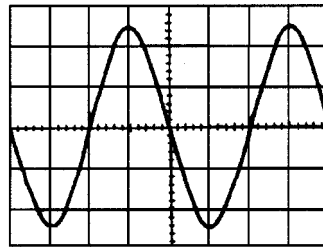

Figure A3.1
- 1 A conductor, 25 cm long is situated at right angles to a magnetic field. Determine the strength of the magnetic field if a current of 12 A in the conductor produces a force on it of 4.5 N. (3)
- 2 An electron in a television tube has a charge of 1.5×10^{-19} C and travels at 3×10^7 m/s perpendicular to a field of flux density $20 \mu\text{T}$. Calculate the force exerted on the electron in the field. (3)
- 3 A lorry is travelling at 100 km/h. Assuming the vertical component of the earth's magnetic field is $40 \mu\text{T}$ and the back axle of the lorry is 1.98 m, find the e.m.f. generated in the axle due to motion. (5)
- 4 An e.m.f. of 2.5 kV is induced in a coil when a current of 2 A collapses to zero in 5 ms. Calculate the inductance of the coil. (4)
- 5 Two coils, *P* and *Q*, have a mutual inductance of 100 mH. If a current of 3 A in coil *P* is reversed in 20 ms, determine (a) the average e.m.f. induced in coil *Q*, and (b) the flux change linked with coil *Q* if it wound with 200 turns. (5)
- 6 A moving coil instrument gives a f.s.d. when the current is 50 mA and has a resistance of 40Ω . Determine the value of resistance required to enable the instrument to be used (a) as a 0–5 A ammeter, and (b) as a 0–200 V voltmeter. State the mode of connection in each case. (6)
- 7 An amplifier has a gain of 20 dB. Its input power is 5 mW. Calculate its output power. (3)
- 8 A sinusoidal voltage trace displayed on a c.r.o. is shown in Figure A3.1; the 'time/cm' switch is